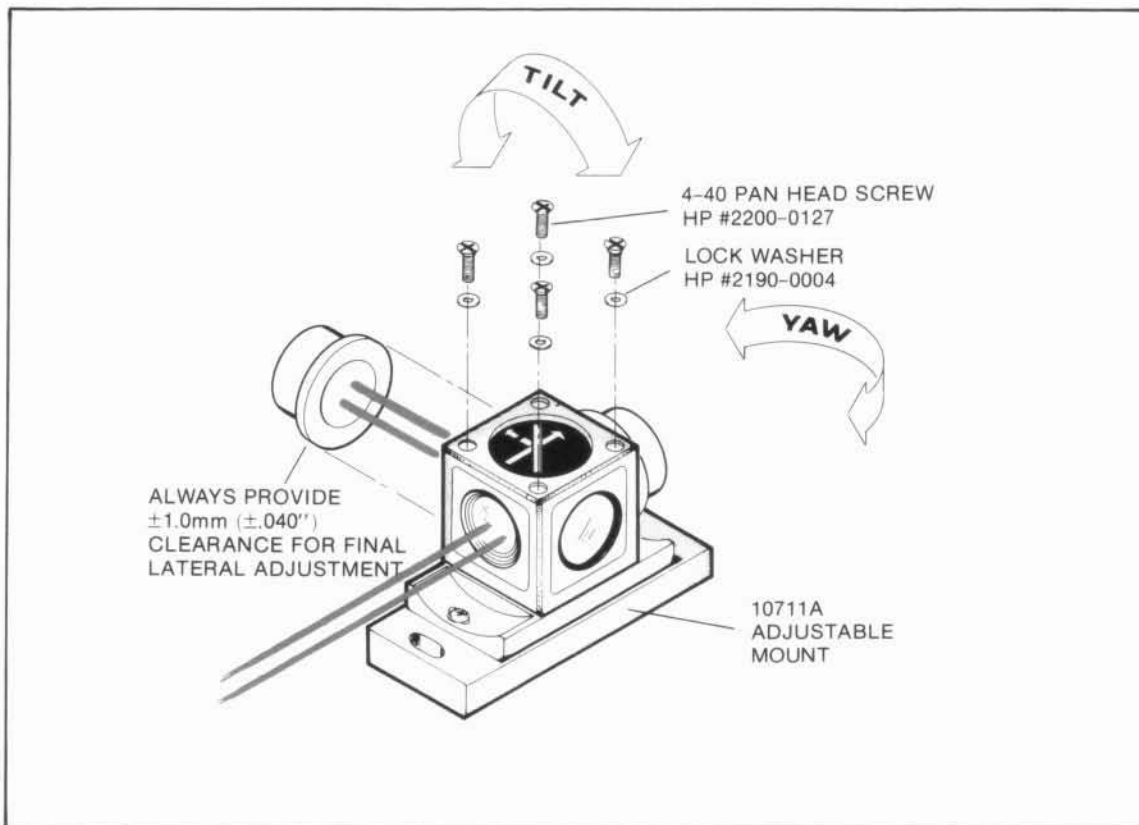

Figure 6-13. Horizontal Plane Mounting Using the HP 10711A Adjustable Mount
- Figure 6-13* shows how to mount the linear, plane mirror, or differential interferometer in the horizontal plane using the HP 10711A Adjustable Mount.